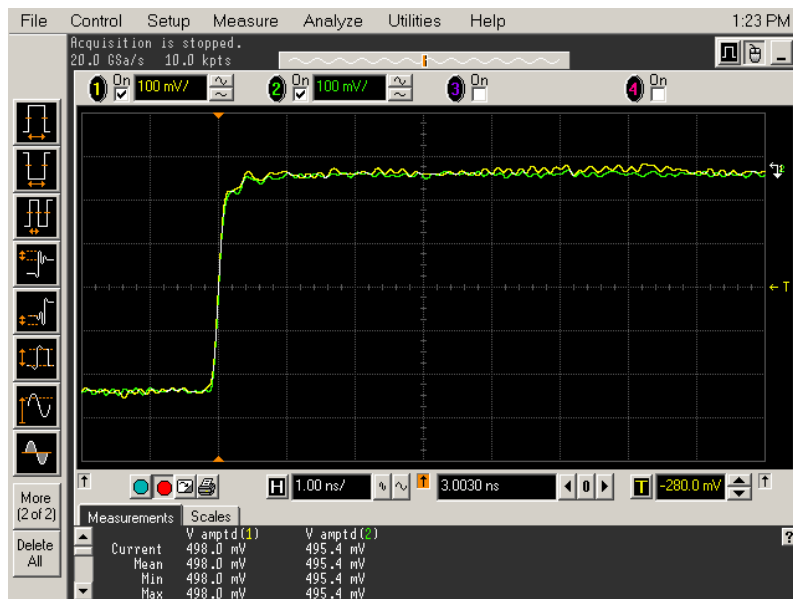

Figure 111 Overlapping Waveforms
- 23 In the Acquisition Setup dialog box enable averaging. When you close the dialog box, you should see waveforms similar to that in **Figure 111**.